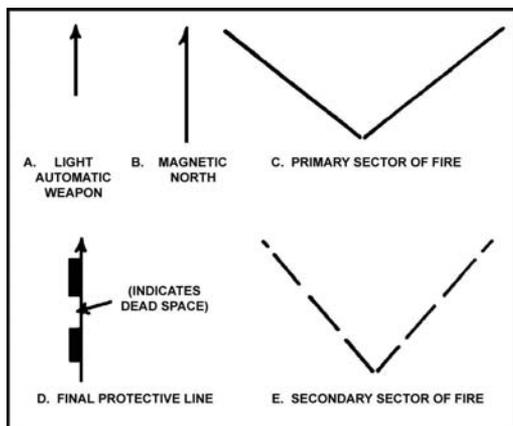

Figure 071-000-0005-1. Symbols
4. Write all necessary information on the range card. Prepare a duplicate range card for the platoon leader. Include all sketches, symbols (figure 071-000-0005-1) and data on both copies.